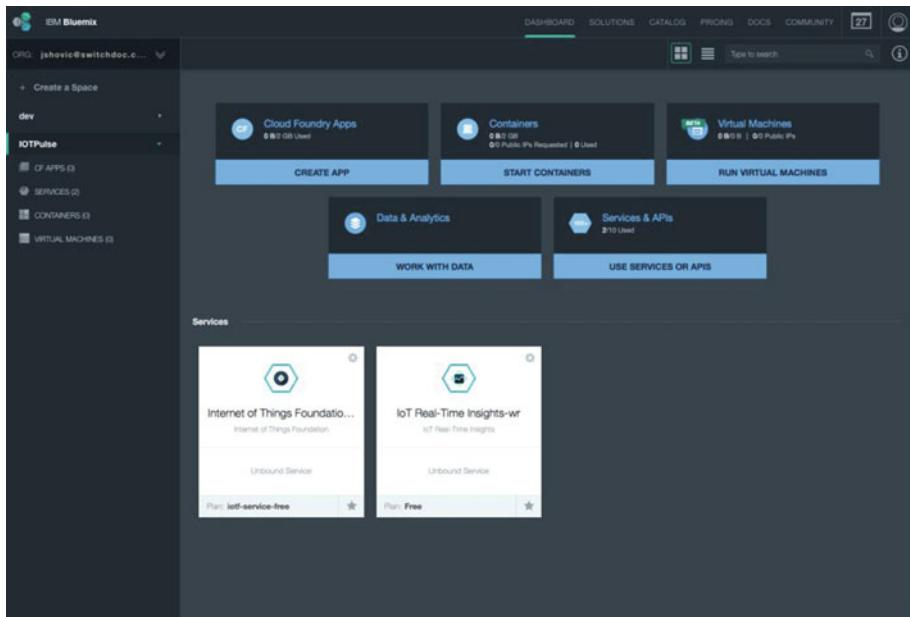

Figure 5-17. IoT Real-Time Insights
Step 1: Add the IoT Real-Time Insights service to your Bluemix dashboard. Open the Bluemix dashboard (the first dashboard after login) and click “USE SERVICES OR APIS” and add the IoT Real-time Insights as a service. It is way down at the bottom of the page. You will then see the screen in Figure 5-17.